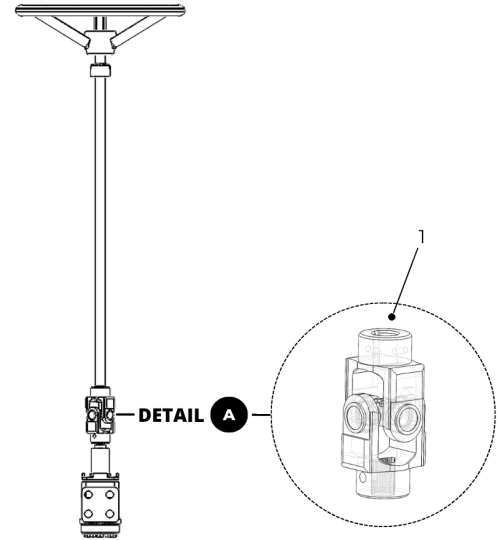
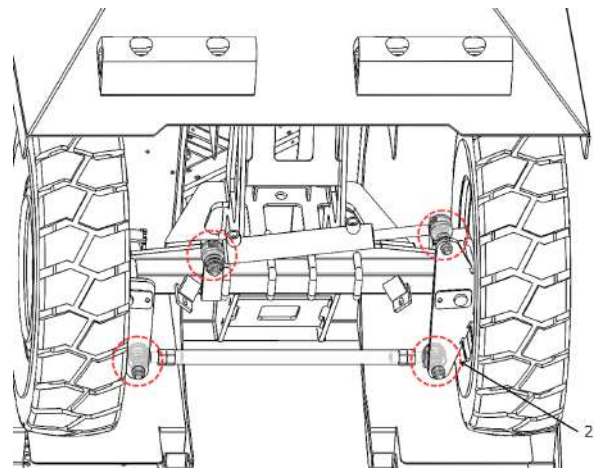

Figure 26. Universal Joint Inspection.
Figure 27. Tie rods Inspection.
1. Inspect the universal joint (1) and the four ball joint (2) for (See Figures 26 and 27):
Lubricate the grease fittings of the following components (See Figure 26 and Figure 27) :